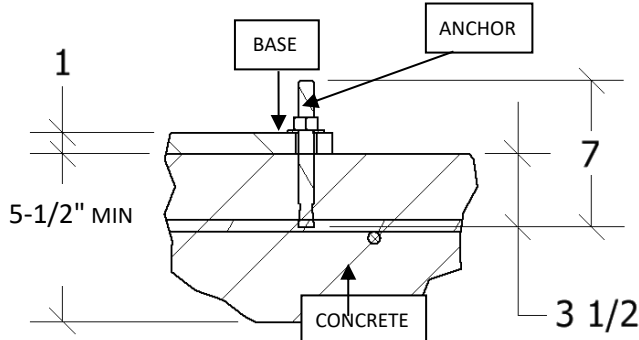

FIGURE 8 : CONCRETE BASE
- 1. FLOOR SPECIFICATIONS :** VERIFY AND MEET FLOOR SPECIFICATIONS BEFORE INSTALLATION SEE **FIGURE 8.**